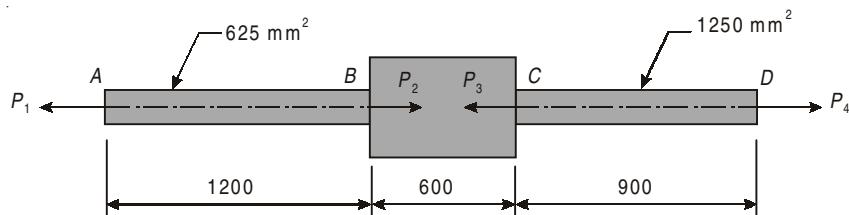

Fig. 1.25
- 1.43.** A member $ABCD$ is subjected to point loads P_1, P_2, P_3 as shown in Fig. 1.25. Calculate force P_2 necessary for equilibrium, if $P_1 = 45 \text{ kN}$, $P_3 = 450 \text{ kN}$ and $P_4 = 130 \text{ kN}$. Determine the total elongation of the member assuming modulus of elasticity to be $2.1 \times 10^2 \text{ kN/mm}^2$. [Ans. $P_2 = 365 \text{ kN}$; $x = 4.914 \text{ mm}$]